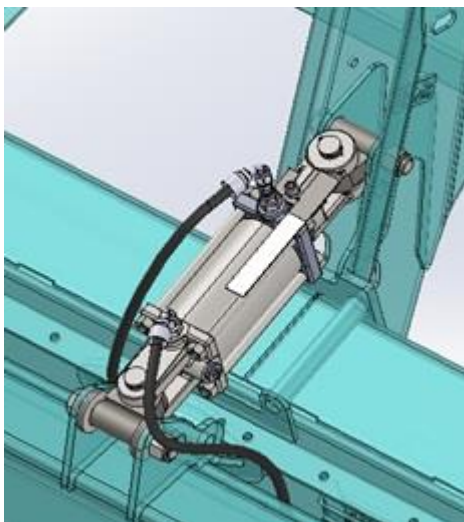

Figure 45
1. The model year 2020 has a new style cylinder. This cylinder is larger to assist in moving the head. The cylinder also uses cast end caps and welded clevises at each mounting point Figure 45 A safety strap still retains the cylinder from over-extending. The positions for the cylinder are the same as MY2019 cylinder.